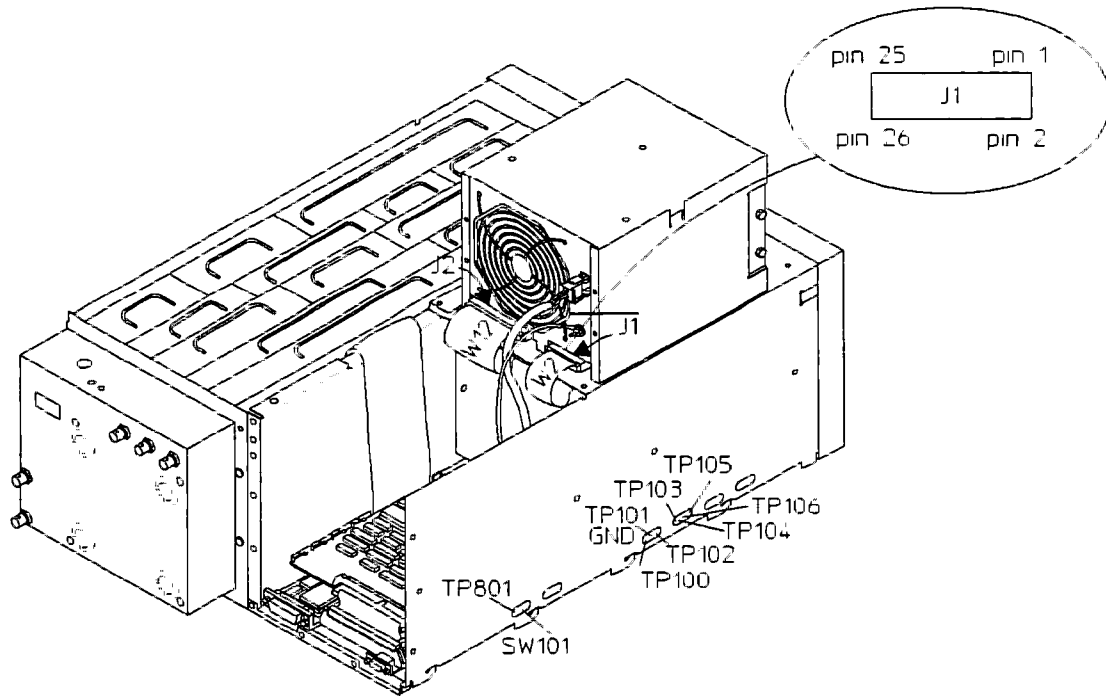

Figure 4-2. Initial Verification Test Locations
7. Set the power switch to ON (I). Check the voltages in table 4-3 (see figure 4-2).
- b. Set the power switch to ON (I). With a logic probe, check J1 pin 13 (PVALID) on the Power Supply assembly for a TTL logic high (see figure 4-2). If the signal is incorrect, the Power Supply assembly is faulty.
- d. Set the power switch to ON (I). While monitoring TP100, momentarily connect TP801 to chassis ground. If the logic level at TP100 did not go from high to low, the CPU assembly is probably faulty.